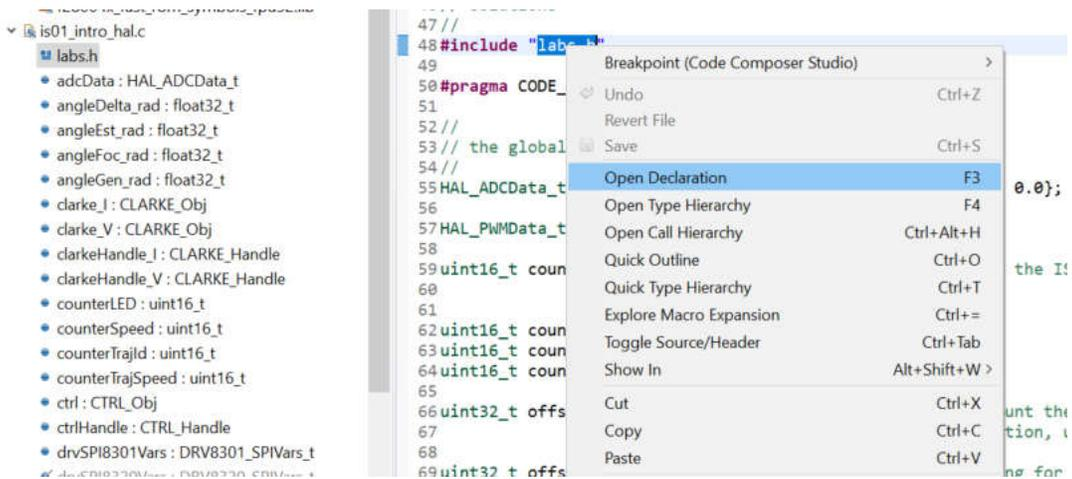

Figure 8: Opening a header file from its declaration
3. Right-mouse clicks on “`labs.h`” and select “Open Declaration” as shown in **Figure 8**.